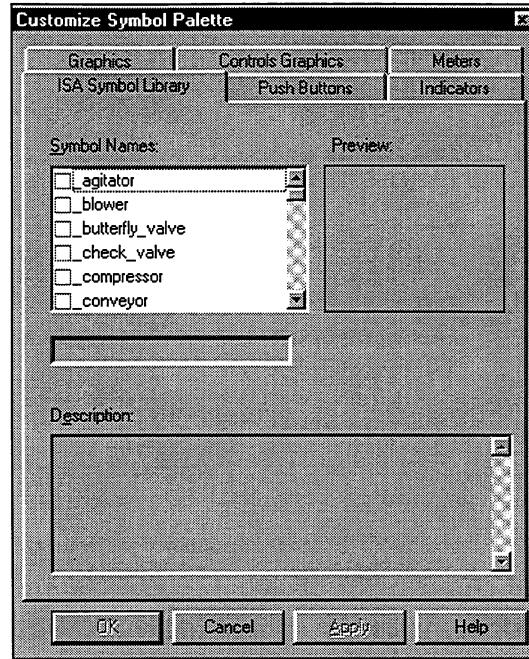

Figure 8-1. Customize Symbol Palette Dialog Box
1. Select the Customize Symbol Palette command on the Options menu. The Customize Symbol Palette dialog box displays as shown in Figure 8-1.